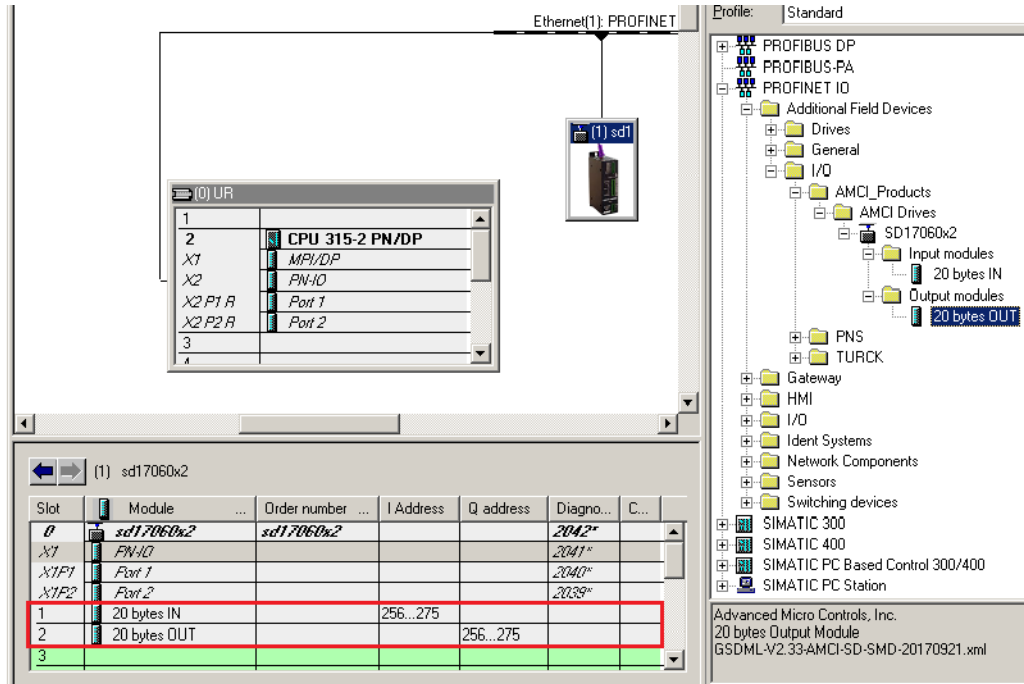

Figure T2.4 I/O Byte Mapping
- 2) To map the I/O bytes to the CPU, double click on the “20 bytes IN” and “20 bytes OUT” icons in the Hardware Catalog. The result of these actions is shown in figure T2.4 below. The system automatically assigns I and Q address to the data table.